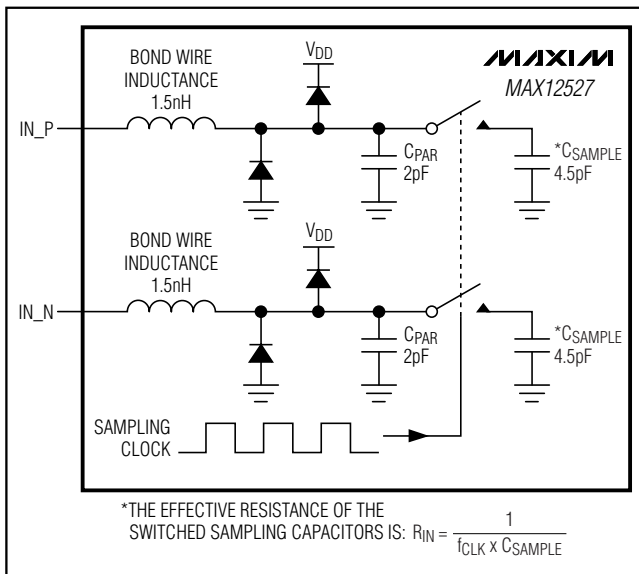
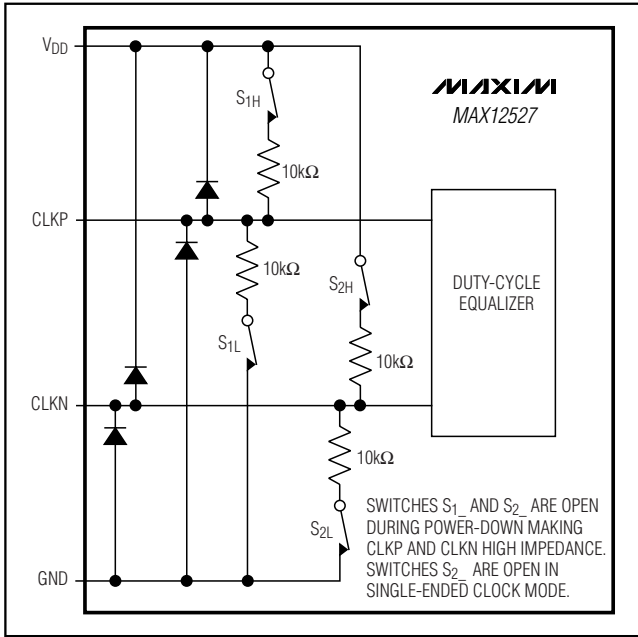

Figure 3. Internal T/H Circuit
Figure 4. Simplified Clock Input Circuit
Figure 3 displays a simplified functional diagram of the input T/H circuit. This input T/H circuit allows for high analog input frequencies of 175MHz and beyond and supports a  $V_{DD} / 2$  common-mode input voltage.
The MAX12527 sampling clock controls the switched-capacitor input T/H architecture (Figure 3) allowing the analog input signals to be stored as charge on the sampling capacitors. These switches are closed (track mode) when the sampling clock is high and open (hold mode) when the sampling clock is low (Figure 4). The analog input signal source must be able to provide the dynamic currents necessary to charge and discharge the sampling capacitors. To avoid signal degradation, these capacitors must be charged to one-half LSB accuracy within one-half of a clock cycle. The analog input of the MAX12527 supports differential or single-ended input drive. For optimum performance with differential inputs, balance the input impedance of IN\_P and IN\_N and set the common-mode voltage to mid-supply ( $V_{DD} / 2$ ). The MAX12527 provides the optimum common-mode voltage of  $V_{DD} / 2$  through the COM output when operating in internal reference mode and buffered external reference mode. This COM output voltage can be used to bias the input network as shown in Figures 9, 10, and 11.
The MAX12527 accepts both differential and single-ended clock inputs with a wide 25% to 75% input clock duty cycle. For single-ended clock input operation, connect DIFFCLK/SECLK and CLKN to GND. Apply an external single-ended clock signal to CLKP. To reduce clock jitter, the external single-ended clock must have sharp falling edges. For differential clock input operation, connect DIFFCLK/SECLK to OVDD. Apply an external differential clock signal to CLKP and CLKN. Consider the clock input as an analog input and route it away from any other analog inputs and digital signal lines. CLKP and CLKN enter high impedance when the MAX12527 is powered down (Figure 4).
- 1) INAP/B, INAN/B analog inputs are disconnected from the internal input amplifier (Figure 3).
- 6) CLKP, CLKN clock inputs enter a high-impedance state (Figure 4).